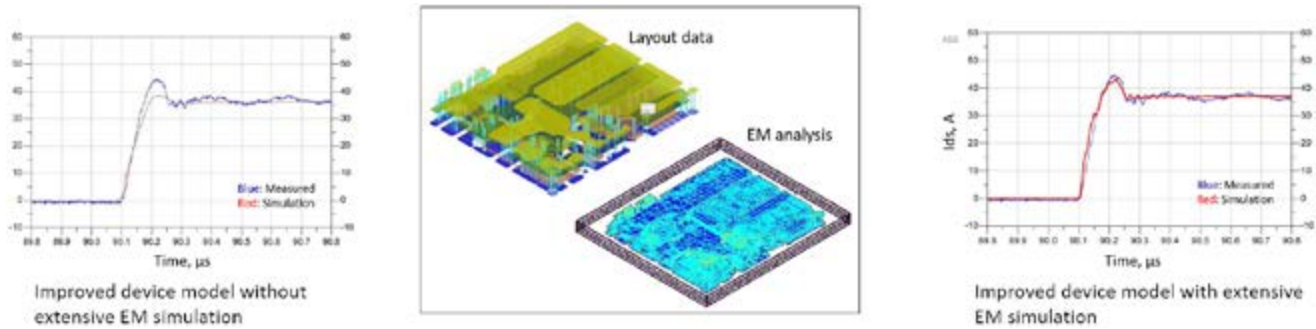

Figure 5: Comparison of simulation results without (left) and with (right) EM simulation of circuit layout (center).
Robust device models will significantly improve circuit simulations. However, this alone is not sufficient for accurate simulation of a power circuit. Because the in-circuit parasitics play an important role in causing ringing, surges, and so on, it is also necessary to consider parasitics in the circuit layout. Incorporating an electromagnetic (EM) analysis has an effect on the simulation results, as shown in Figure 5.